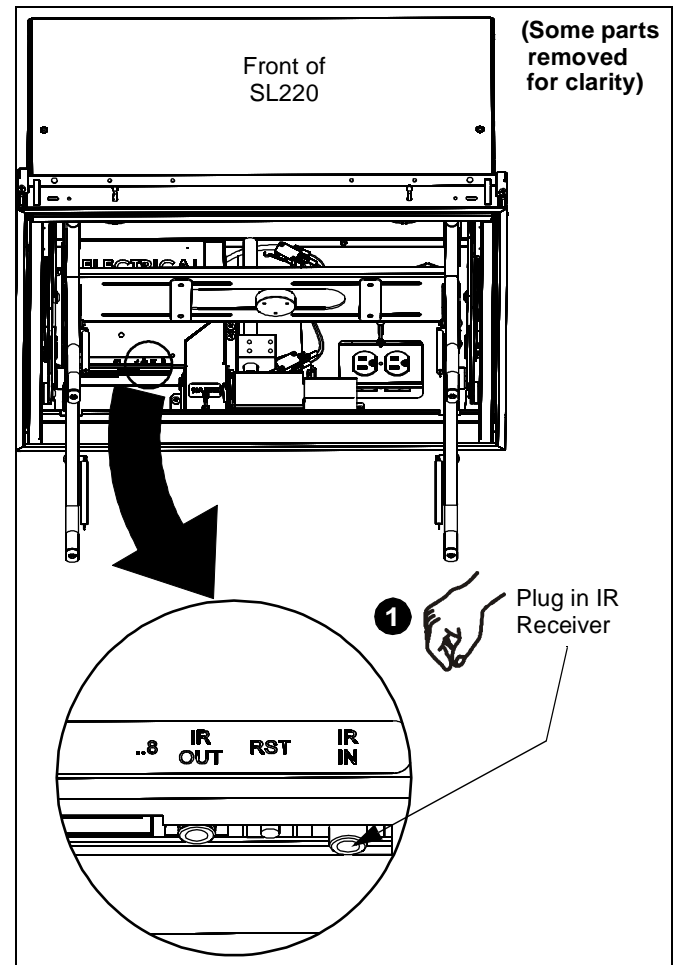

Figure 10
1. Plug IR sensor (S) into control box. (See Figure 10)